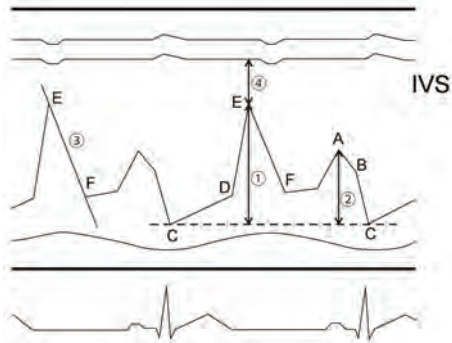

Figure 5-34: Reference for CE amp and CA amp
In Figure 5-34: ① indicates the measurement point.
- 6 On the touch panel, tap **CA amp** and repeat steps as above to measure the C-A amplitude ②.
- 3 Place the caliper on Point E in Figure 5-34, and press the **SET** button ().